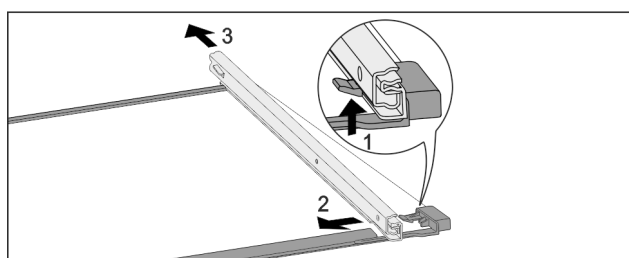

Fig. 164 Glass shelf with rails
- ▶ Push up front click-in hooks. *Fig. 164 (1)*
- ▶ Move the pull-out rails to the side *Fig. 164 (2)* and to the rear *Fig. 164 (3)*.